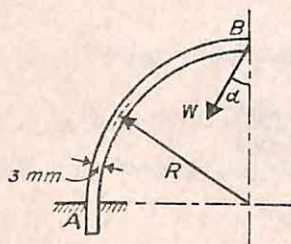

Fig. 43
23. A strip of steel of rectangular section 25 mm × 3 mm is bent to the shape of a quadrant and loaded by a force  $W$  inclined at  $\alpha$  to the vertical as shown in Fig. 43. Derive formulae for the vertical and horizontal movements at the free end  $B$  and hence find the value of  $\alpha$  to give no horizontal movement at  $B$ .